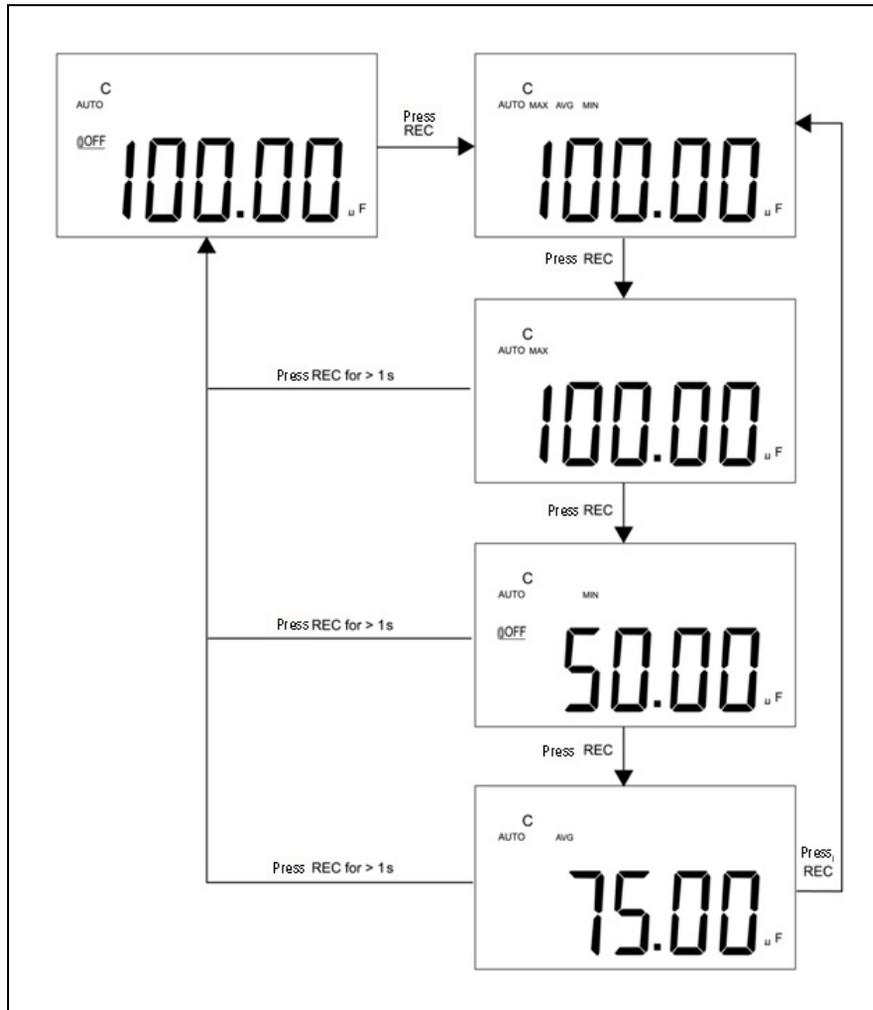

Figure 2-1 Tolerance operation
- 2** Press this key momentarily to cycle through maximum, minimum, average and present readings. The **MAX, MIN, AVG** or **MAX AVG MIN** annunciator turns on respectively to indicate which value is being displayed (see Figure 2-1).